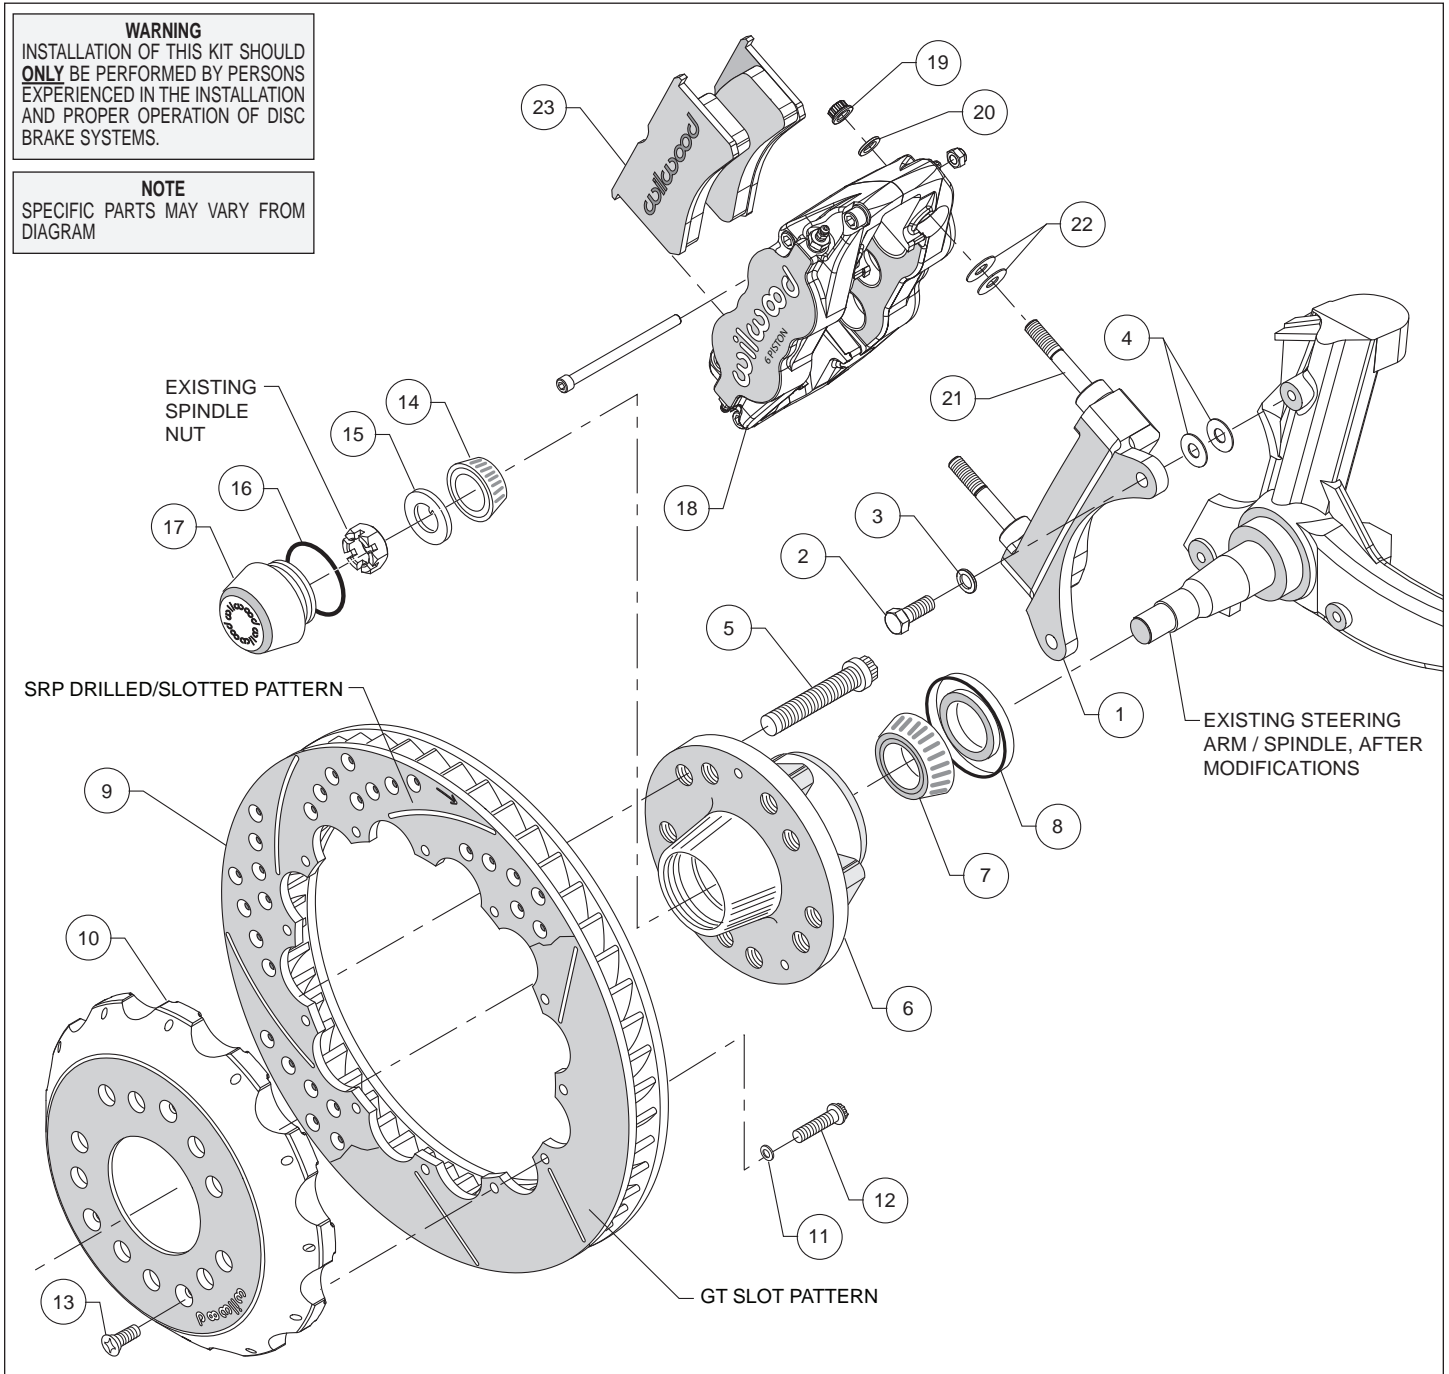
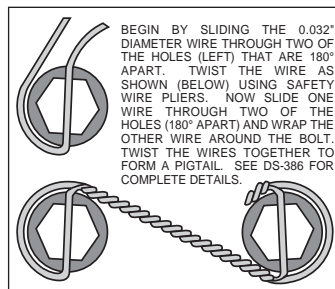

Figure 2. Typical Installation Configuration
Figure 4. Safety Wire Diagram
Assembly Instructions (numbers in parenthesis refer to the parts list and Figure 2 on the preceding pages):
- The caliper mount bracket (1) should initially be installed with clean, dry threads on the mounting bolts. Orient the bracket as shown in Figure 2 and Photo 1, and install using bolts (2) and washers (3). Initially place two .035" thick shims (4) on each bolt between the bracket and upright, Figure 2. Temporarily tighten the mounting bolts. **NOTE:** The bracket must fit squarely against the mounting points on the spindle. Inspect for interference from casting irregularities, machining ridges, burrs, etc. Later, after the caliper alignment has been checked, the mount bolts will be secured using red *Loctite*® 271.
- Orient the rotor (9) and the hat (10) as shown in Figure 2 and Photo 4. Attach rotor to hat using bolts (12) and washers (11). Using an alternating sequence, apply red *Loctite*® 271 to the threads, and torque to 155 in-lbs. For an added measure of security, the bolts may be safety wired using standard 0.032 inch diameter stainless steel safety wire as shown in Figure 4.
- **NOTE:** *This kit contains distinct right and left hand calipers that must be mounted in a specific direction, as described below.* Lubricate the caliper mounting studs (21) with lightweight oil. Initially place two .035" thick shims (22) on each stud between the caliper and the bracket, as shown in Figure 2 and Photo 7. Mount the caliper (18) onto the bracket (1) using lock nuts (19) and washers (20), Figure 2. Ensure that the caliper is mounted so the largest pistons are at the rotor exit end of the caliper, in relation to the direction of rotor rotation. Temporarily tighten the lock nuts and view the rotor through the top opening of the caliper. The rotor should be centered in the caliper, Photo 8. If not, adjust by adding or subtracting shims (4) between the bracket and the spindle. Always use the same amount of shims on each of the two mounting bolts. Once the caliper alignment is correct, remove the bracket mounting bolts one at a time, apply red *Loctite*® 271 to the threads, and torque to 40 ft-lb.